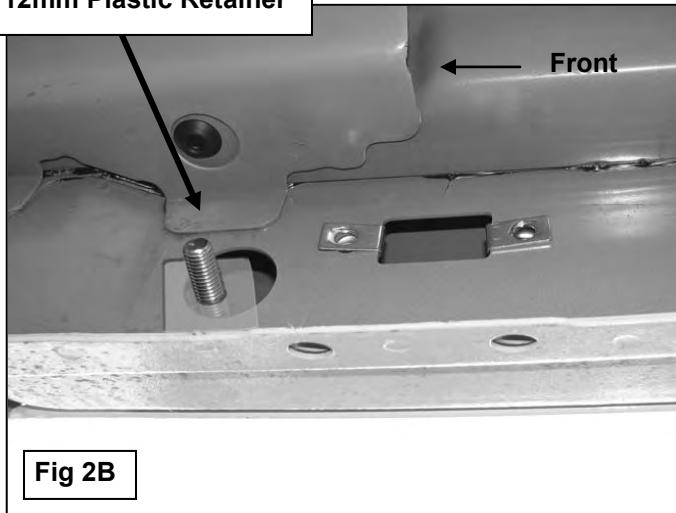

Fig 2B
3. Insert (2) 10mm Clip Nuts, (with the nut portion to the inside), into the rectangular opening. Line up the threaded nut with the factory round holes, (**Figure 1**). Next, partially thread (1) 12mm Plastic Retainer onto (1) 12mm Bolt Plate, (**Figure 2A**). Insert the Bolt Plate into the large round hole, (**Figure 2B**). Once inserted, thread the Plastic Retainer onto the threaded end of the Bolt Plate until it is flush against the body panel. **NOTE:** When properly installed, the Plastic Retainer is designed to prevent the Bolt Plate from falling into the body panel during Bracket installation.